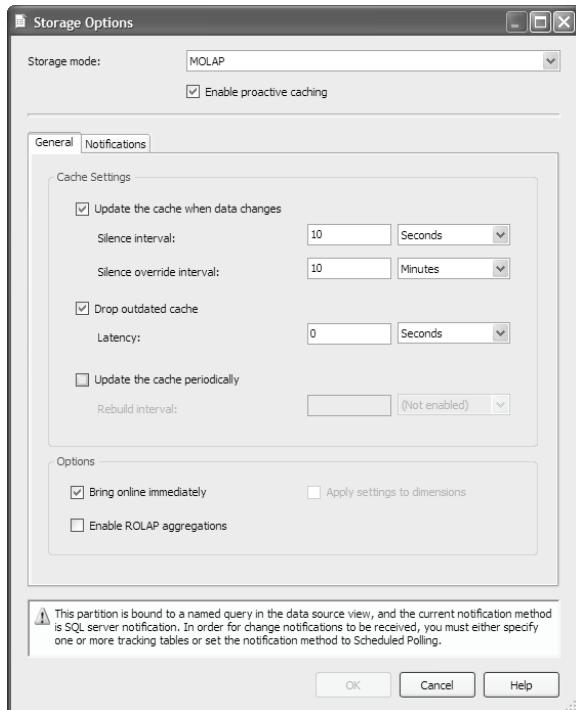

Figure 15.24 Use the Storage Options dialog to fine-tune the proactive caching settings.
6. You can refine the standard settings if needed. Let's find what the default Automatic Molap settings are and make adjustments as necessary. Select the *Custom settings* option and click the *Options* button to open the Storage Options dialog (Figure 15.24).